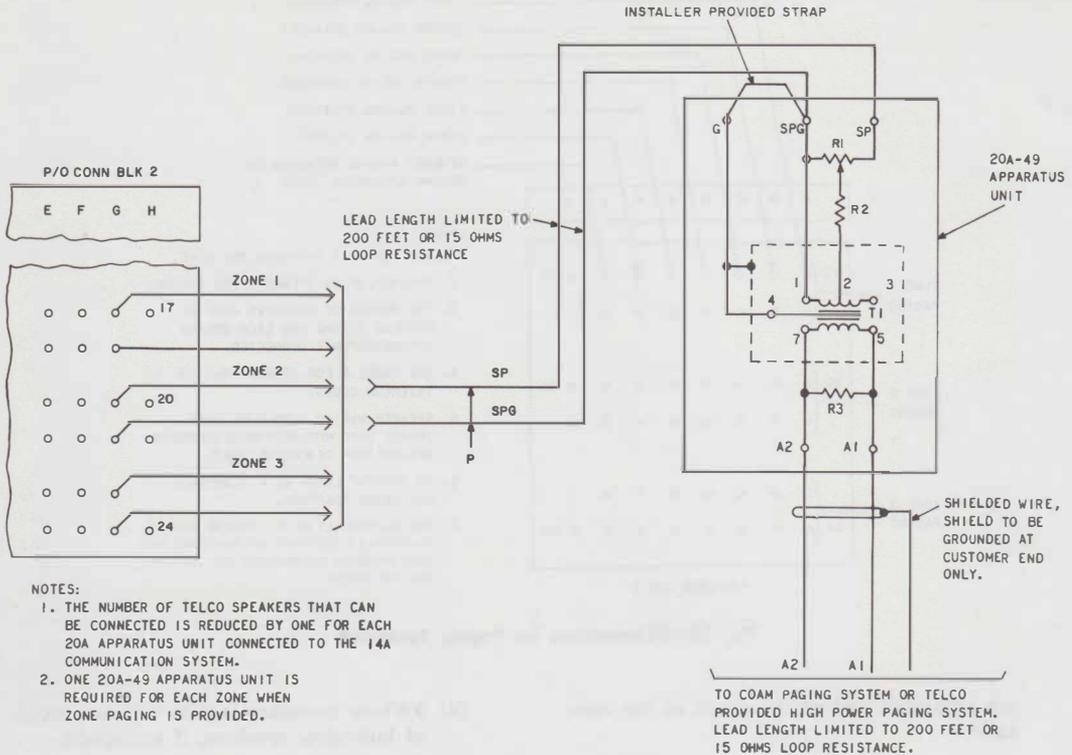

Fig. 33—Connections for 20A-49 Apparatus Unit
4.55 A customer-owned and maintained (COAM) paging system, or a separate telephone company-provided paging system, is connected to the 14A System through a 20A-49 apparatus unit (see Fig. 33). The 20A-49 apparatus unit is mounted externally to the KSU. Where zone paging is utilized, a separate 20A-49 apparatus unit is required for each zone.
- (1) Remove cover from the 20A-49 apparatus unit.
- (2) Mount the 20A-49 apparatus unit within 200 feet of the KSU (wherever the customer desires).
- (3) Connect the apparatus unit to the KSU as shown in Fig. 33. Wiring should be
- (4) Have customer connect his paging system to the 20A-49 apparatus unit, using shielded wire, as shown in Fig. 33.
- (5) Replace cover on the apparatus unit.